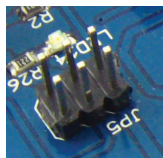

Fig. 7: ISP connector
- * the AAR-Robot including an on-board ISP-connector (fig. 7)